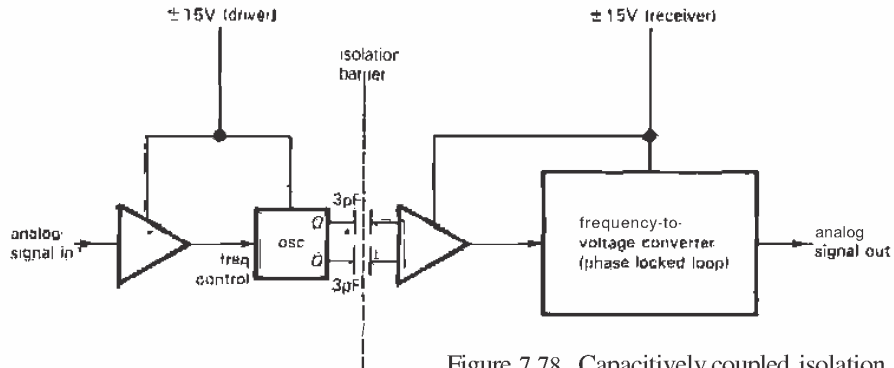
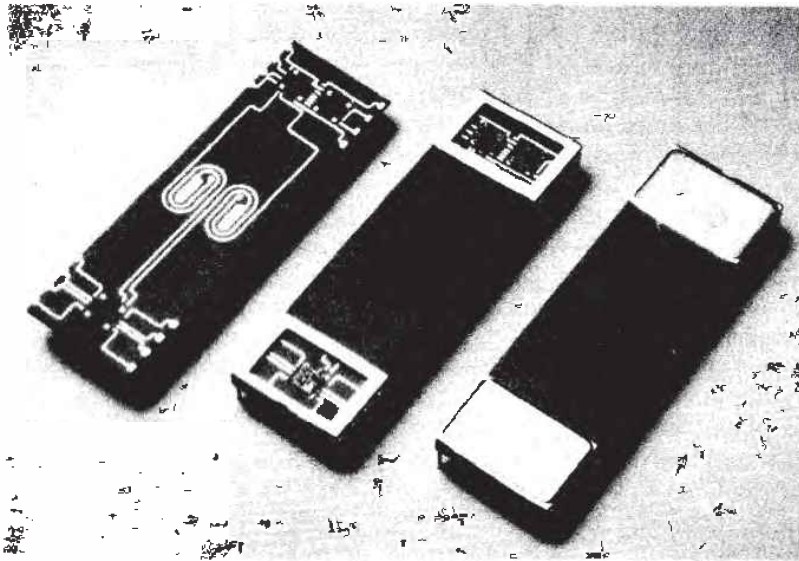

Figure 7.78. Capacitively coupled isolation amplifier.
Figure 7.79. Burr-Brown IS0106 isolation amplifier. (Courtesy of Burr-Brown Corporation.)
3. Capacitively coupled isolation of a high-frequency carrier signal, which is frequency-modulated with the signal to be isolated (Fig. 7.78). This technique is typified by the ISO102, ISO106, and ISO122 from Burr-Brown (Fig. 7.79). There is no feedback, as with transformer isolation, but for most models you need power supplies at both ends. This usually isn't a problem, since you are likely to have electronics at both ends, generating and using the signal. If not, you can get an isolated